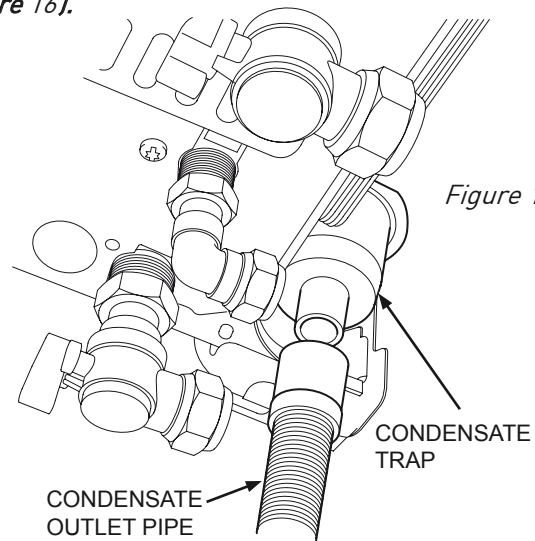

Figure 16
10.17 Extract the bottom part of condensate trap, by turning anti-clockwise and fill it with approximately 50 cc water re-connecting it to the boiler. (*Figure 16*).
10.18 Connect the condensate drainage pipe to the drainage system. (*Figure 16*) Note due to the acidic nature of the condensate the drainage system must be made of non-corrosive material such as plastic tubing. More detailed information on condensate discharge is provided in BS 6798 (Specification for installation of gas fired hot water boilers of rated input not exceeding 70kW)